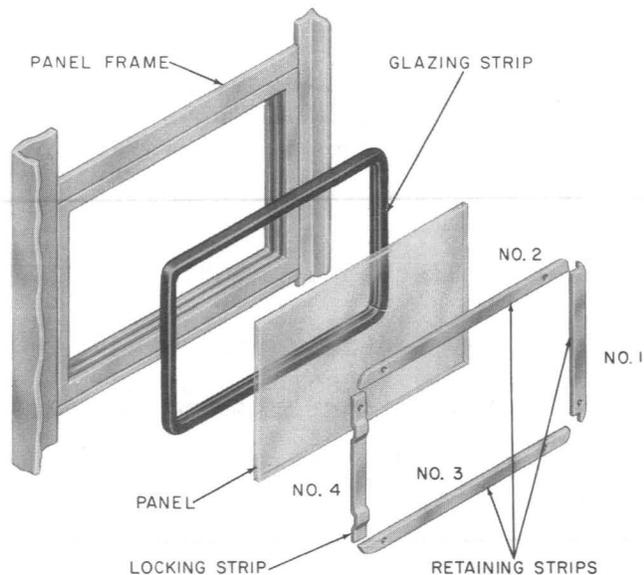

Fig. 21—Assembly of Side or Rear Panels
4.10 Booth panels and signs are held in place by four interlocking retaining strips. They are inserted in sequence as shown in Fig. 21. The No. 4 strip is rippled and is held in place by interface friction.
- (1) Remove No. 4 locking strip.
- (2) Remove retaining strips No. 2 and 3.
- (3) Remove retaining strip No. 1.
- (4) Remove panel and rubber glazing strip.
- (5) Apply rubber glazing strip to replacement panel.
- (6) Insert panel into frame with the beaded edge of glazing strip on the outside.
- (7) Replace retaining strips in sequence as shown in Fig. 21.
4.15 After roof is removed, the side and rear signs are removed in the same manner as the side panels. See paragraph 4.11 and Fig. 21.